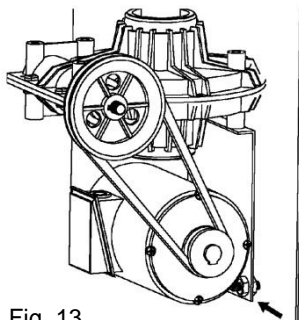

Fig. 13
- Check the tension of the drive belt every 6 months (Abb. 13).